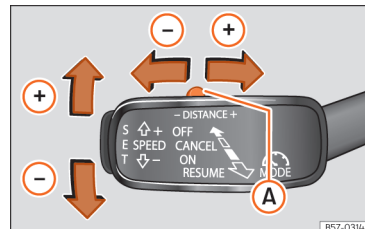

Fig. 262 On the left of the steering column: third lever for operating the Adaptive Cruise Control.
»» Fig. 262 button. If you wish to increase or reduce speed by intervals of 1 km/h (0.6 mph), move the lever to position ②
»» Fig. 262 A).